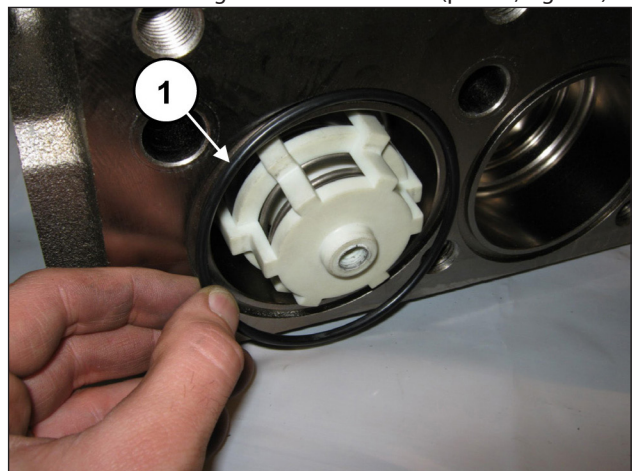

Fig. 151
Insert the front O-ring in the suction valves (pos. ①, Fig. 151).